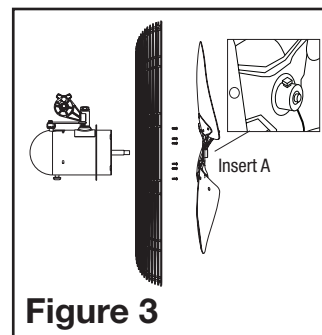

Figure 3
1. Install the rear grill onto the motor, lining up the six holes in the grill with the six threaded holes in the motor. Install (6) 10-32 x 5/16" hex screws through the rear grill into the motor. Securely tighten all (6) screws (Figure 3).
2. Push the fan blade onto the motor shaft, centering the hub facing away from the motor, until it stops against the shaft (Inset A). Align square head bolt with flat of the motor shaft. **TIGHTEN VERY SECURELY WITH AN ADJUSTABLE WRENCH.** Failure to securely tighten the bolt could result in damage to the fan and/or personal injury (Figure 3).